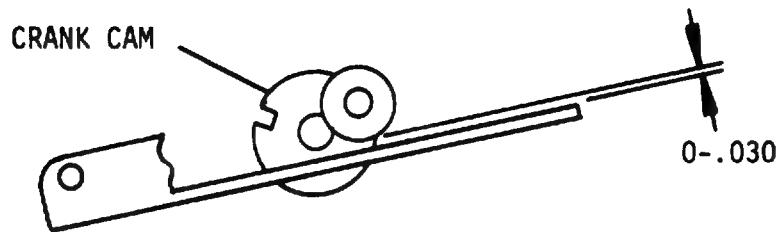

Figure 2-10A. Eject Motor Cam Alignment Check-Carrier Open
- d. Depress eject button on bezel and observe the crank cam rotate to a point where the bearing follower is just clear of impacting the carrier plane, i.e., 0 - .03". Once the carrier is open there must be no further contact between the bearing follower and carrier. (See Figure 2-10A.)